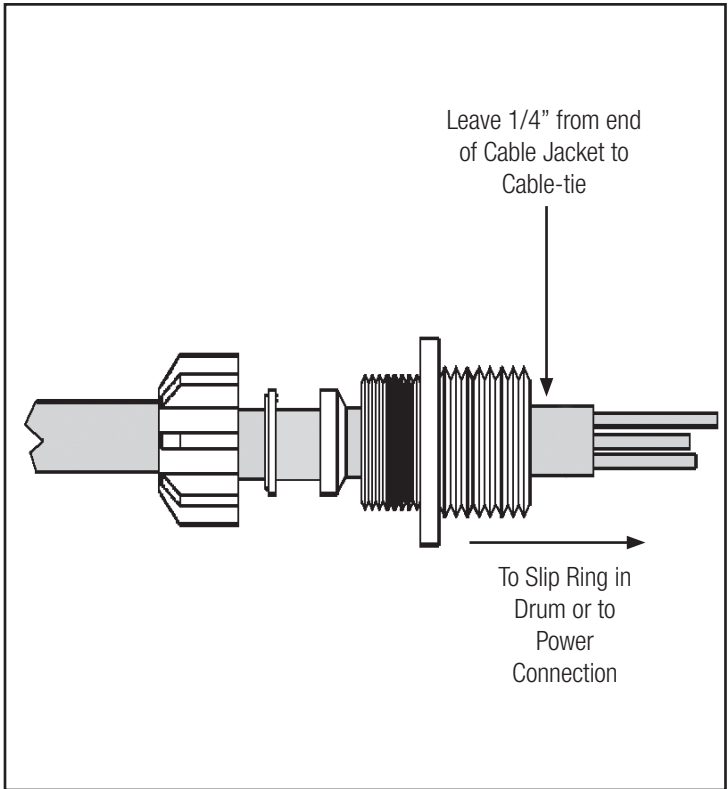

Figure 11-3 Watertight
3. Feed cable through the watertight and the drum, so that 1" of the jacket is through the watertight. Secure a cable-tie 1/4" from the end of the jacket and tighten watertight. Replace inner flange gasket if damaged. See Figure 11-3.